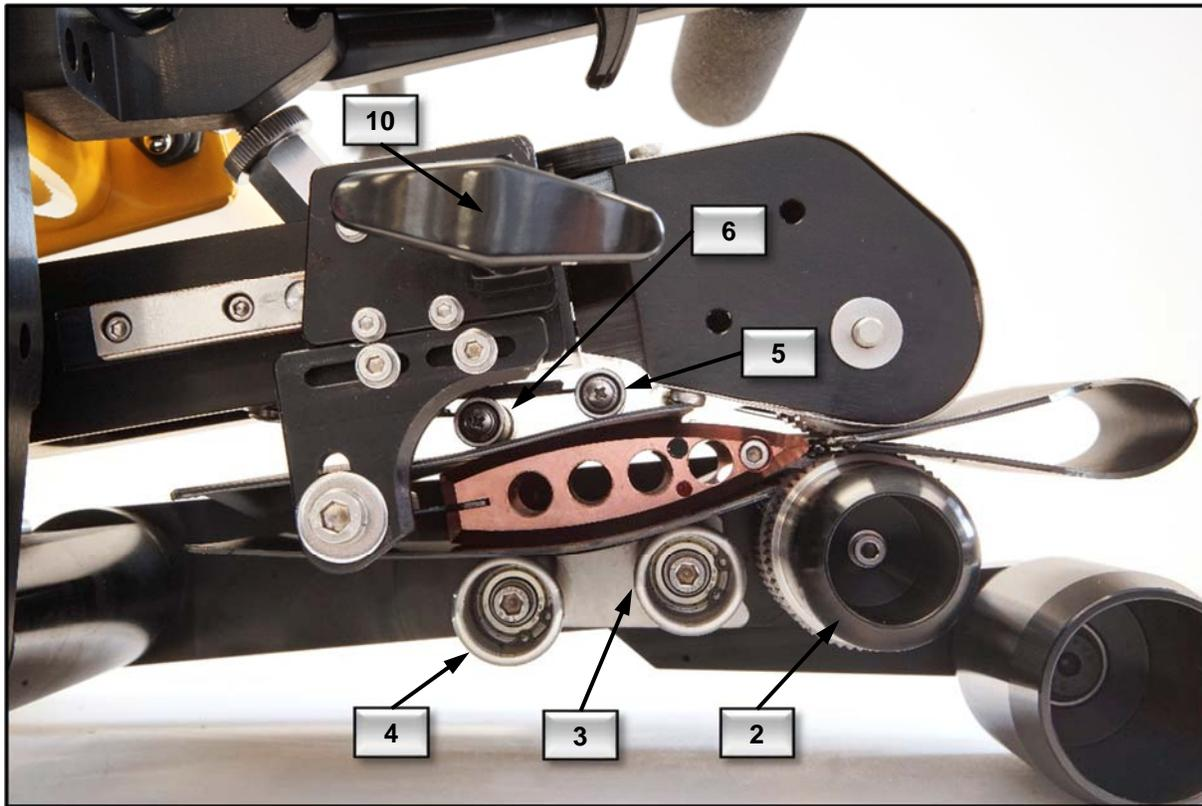
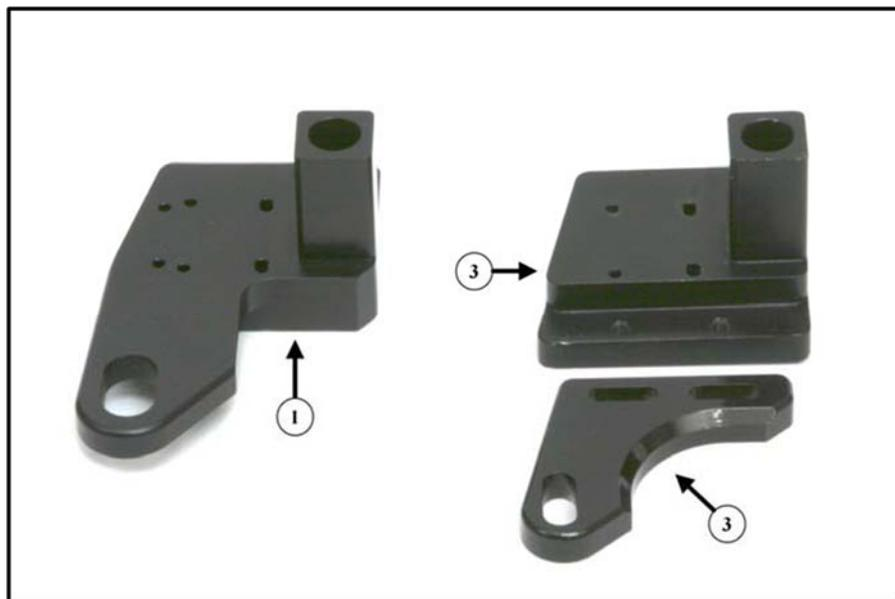

Figure 6
Figure 7
The lower contour rollers (#3 and #4, Figure 6) are located below the heating wedge and are mounted to the lower frame directly in front of the lower nip roller (#2, Figure 6). For this adjustment you will need a 13mm open end wrench and a 4mm and 6mm Allen wrench.
- 4.3.1 With the nip pressure lever in the up position and the wedge in the disengaged position, insert the adjustment material that you cut earlier from the template into the Pro- Wedge as shown in Figure 6 above:
- 4.3.2 With a Phillips screw driver remove lower frame chain cover to expose the lockdown bolt for the front lower contour roller (#4, Figure 6).
- 4.3.4 Using a 13mm open end wrench, loosen the lockdown bolt (hex head) for the rear lower contour roller (#3, Figure 6). You can now adjust the height of the wedge by adjusting the rear lower contour roller up or down with a 4mm Allen wrench at the end of the roller. Once the desired position has been achieved, tighten the lockdown bolt (hex head) then check the adjustment again to make sure it did not move when tightened.
Note 2: The most important adjustment is the positioning of the wedge in relationship to the lower nip roller (#2, Figure 6). The distance between the lower tip of the heating wedge and the lower nip roller should be slightly more than the thickness of the material you will be welding. The distance is set by adjusting the rear lower contour roller (#3, Figure 6) up or down.
- 4.3.5 Adjust the front lower contour roller (#4, Figure 6) up and to the right (counterclockwise) until it just comes in contact with the material. The roller should have a slight amount of resistance as you rotate it. If you adjust it to tight it will rock the wedge and change the rear roller (#3) adjustment.
There are two types of wedge slide lock mounts, the old style one-piece (Item 1 in Figure 7, P/N 100-200) and the new style two-piece (Item 3 in Figure 7, P/N's 100-200L and 100-200U) as shown in Figure 7. The two-piece configuration is also shown in Figure 6. If necessary units with the old style one-piece mount can and should be upgraded to the new style two-piece mounts.
Adjustment procedures for one-piece lock mount assemblies (#1, Figure 7):
- 4.3.7 With the material set-up piece in place and with the nip lever and wedge engaged as shown on Figure 6, use a 5mm Allen wrench to loosen the wedge mount bolt that connects the wedge hex mount to the wedge slide lock mount (#1, Figure 7).
Adjustment procedures for two-piece lock mount assemblies (#3, Figure 7):
- 4.3.10 With material set-up piece in place and with nip lever and wedge engaged as shown on Figure 6, use a 5mm Allen wrench to loosen the wedge mount bolt that connects the wedge hex mount to the lock mount (#3, Figure 7). For HDPE set-up, position lock bolt as far down in slot as possible and tighten bolt.
- 4.3.12 Move the heating wedge forward or backward (left or right) so that there is plenty of clearance between the tip of the wedge and the upper and lower nip rollers. When adjusting Pro-Wedge for welding HDPE the tip of the wedge should have the same clearance as shown in Figure 6.